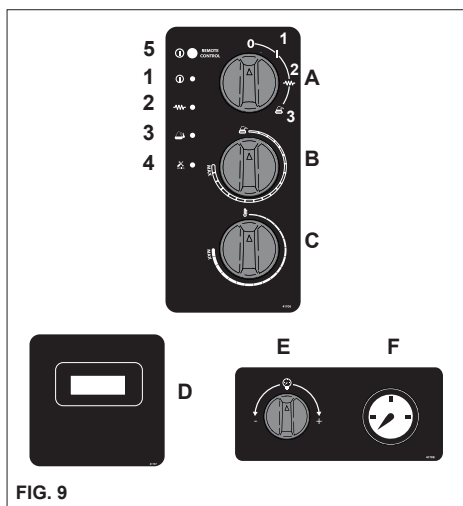

FIG. 9
- 2) Start up the high pressure washer, and select the amount of detergent to be dispensed using the relative control **B** (fig. 9). The display will show the amount of detergent selected for 3 seconds. Cover the surface to be cleaned with the solution, working from the bottom up. Leave it to react for a few minutes.